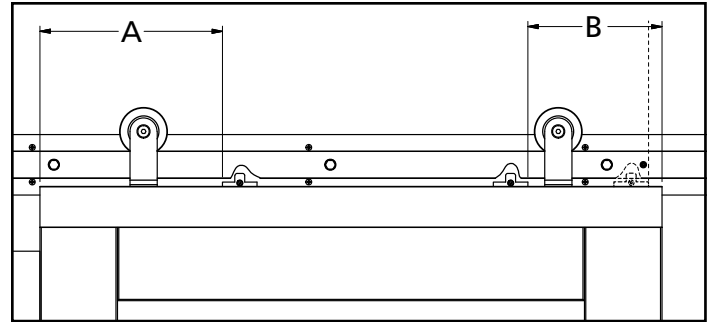

Figure 25. Trigger Alignment
- a. **Measurement 'A'** is taken from the **edge closest to the handle**, as shown in figure 25.